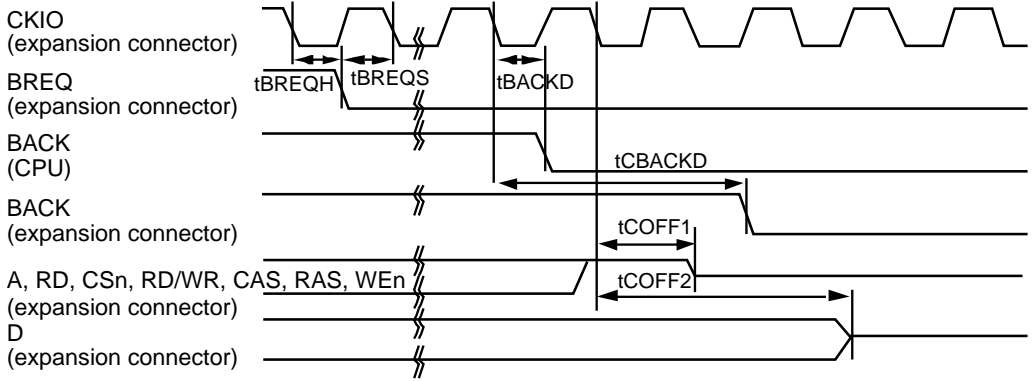
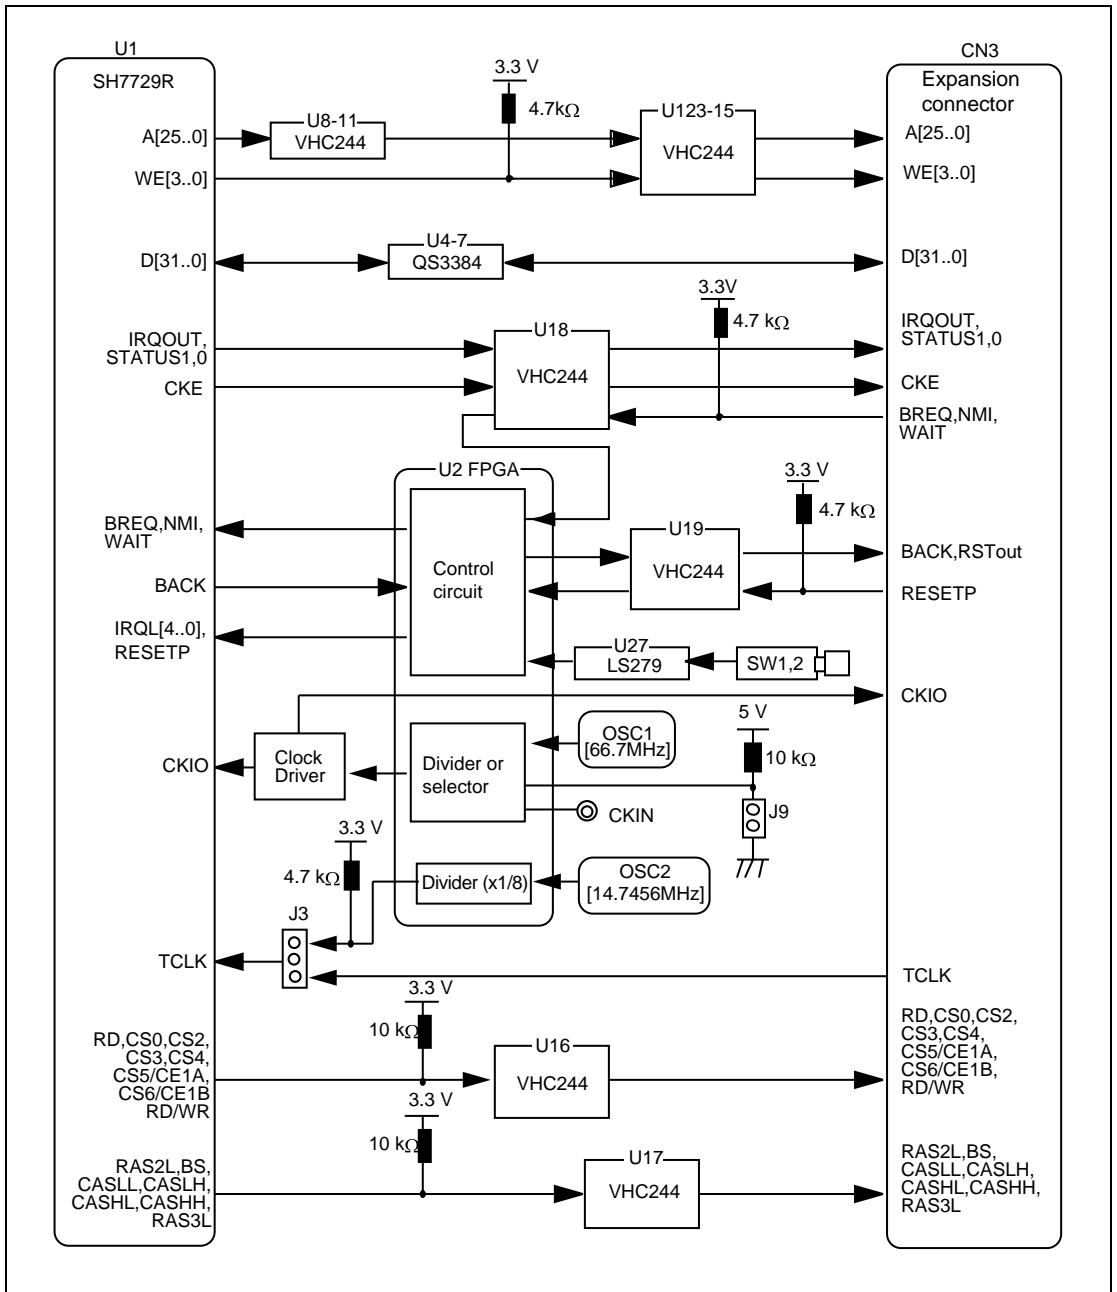

Figure 5.8 Bus Release Timing (1)
Figure 5.11 Configuration of User Expansion Board Interface Circuit (CN3)
(2) A[25:0]: See figure 5.11.
(3) RSTOUT: A low-level pulse is output when the CPU is reset (at power on, when the manual reset switch is pressed, or when the reset signal is input from the expansion connector).
(4) BACK: See figures 5.8, 5.9, 5.11 and 5.12.
(5) BREQ: See figures 5.8, 5.9, 5.11 and 5.12.
(6) TCLK: Clock input for the timer. Jumper J3 selects either the CPU board clock or clock input from the expansion connector.
(7) NMI: Invalid and not reserved during monitor program execution.
(8) WAIT: The result of ORing the WAIT signals from the CPU board resource area 0 and area 6 (PCMCIA space) on access is input to the CPU.
(9) CKIO: Output only. Provides the same frequency as that set by jumpers J9 and J10. It is recommended that a terminal resistor is connected to the expansion board.